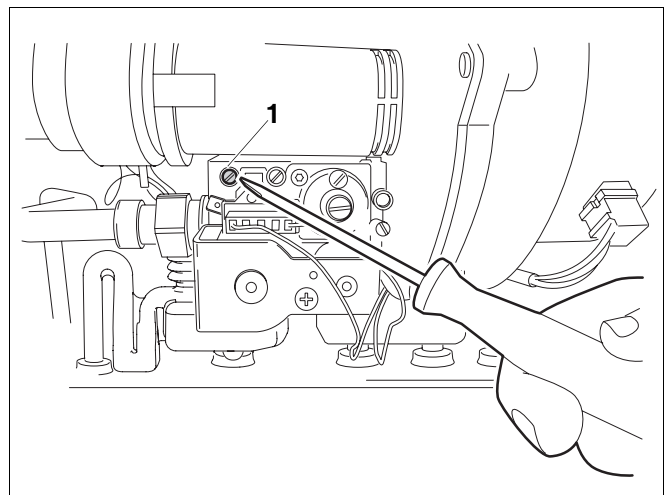

Fig. 33 Bleeding the gas supply conduit
- Loosen the screw plug on the testing nipple for the gas connection and venting (fig. 33, pos. 1) by two turns and fit a hose.